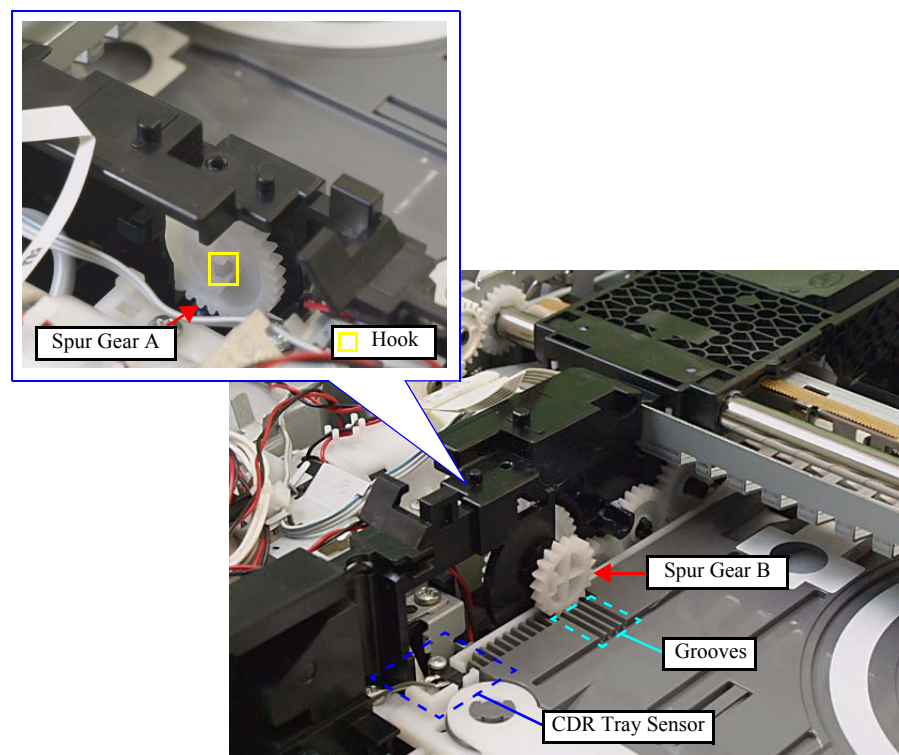
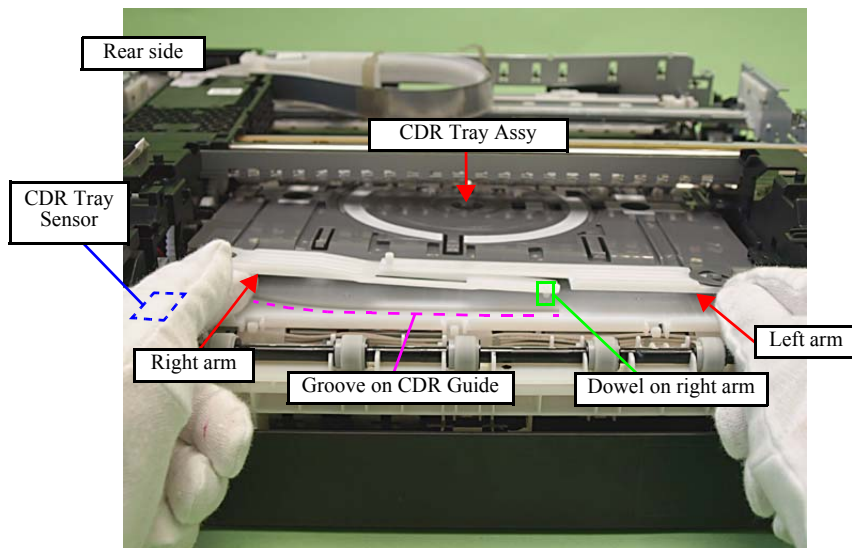

Figure 4-94. Removing the CDR Tray Assy (1)
Figure 4-95. Remove the CDR Tray Assy (2)
1. Release the hook (x1) of the Spur Gear B on the Spur Gear A side, and remove the Spur Gear A. (See Fig. 4-94.)
Take care not to damage the CDR Tray Sensor when removing the CDR Tray Assy. (See Fig. 4-94, Fig. 4-95.)
- Make sure to insert the dowel of the right arm into the groove on the CDR Guide. (See Fig. 4-95.)
- Place the left arm over the right arm before installation. (See Fig. 4-95.)
- When installing the Spur Gear B, engage its teeth with the grooves on the CDR Tray Assy. (See Fig. 4-94.)